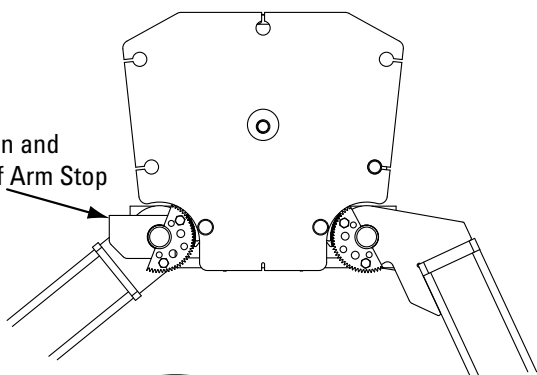

Fig. 26c
**Note:** Arm stop will be required on the drive in side of the power unit side. Install at same time as arm pin, Fig. 26b. Notice the orientation of arm stop in Fig. 26c.